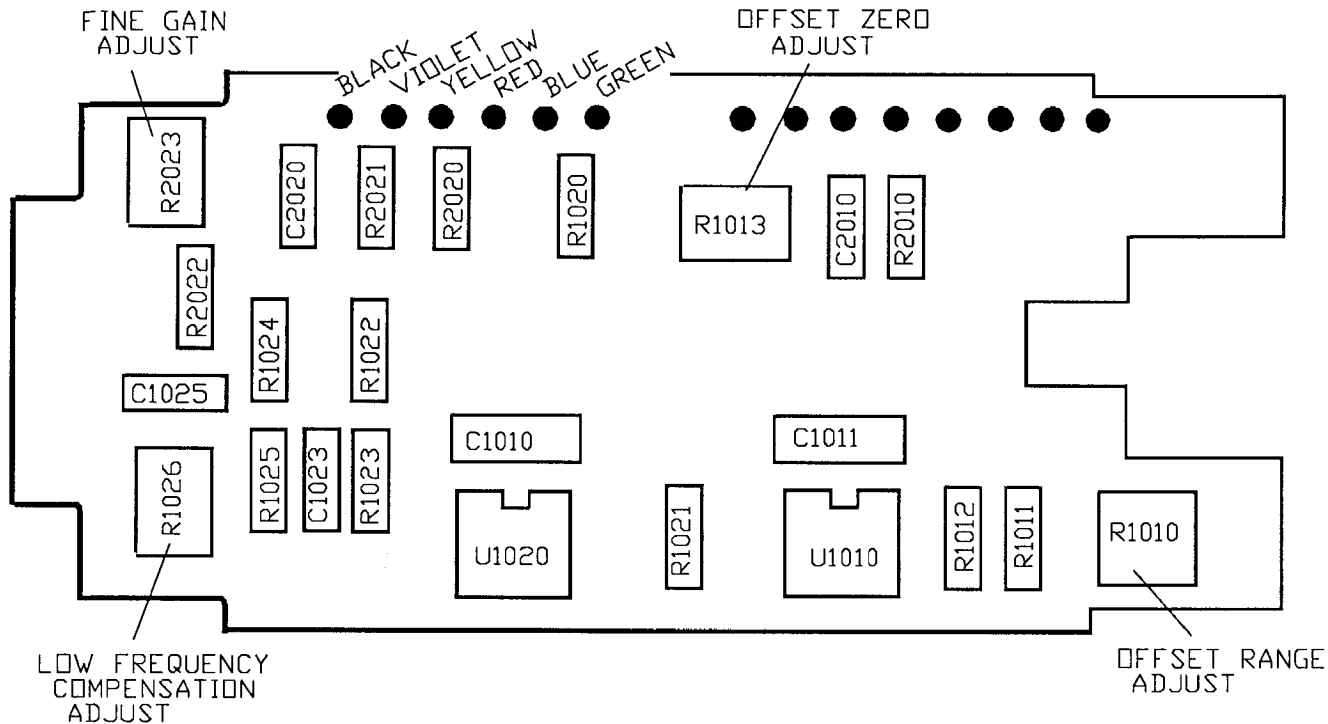

Figure 7-4. The Main Circuit board component layout.
a. Unsolder and identify for later installation the four power cable wires from the main circuit board (refer to Figure 7-4).
f. Resolder the four power cable wires. Make sure that the proper color wire is inserted in the proper connection point (refer to Figure 7-4).